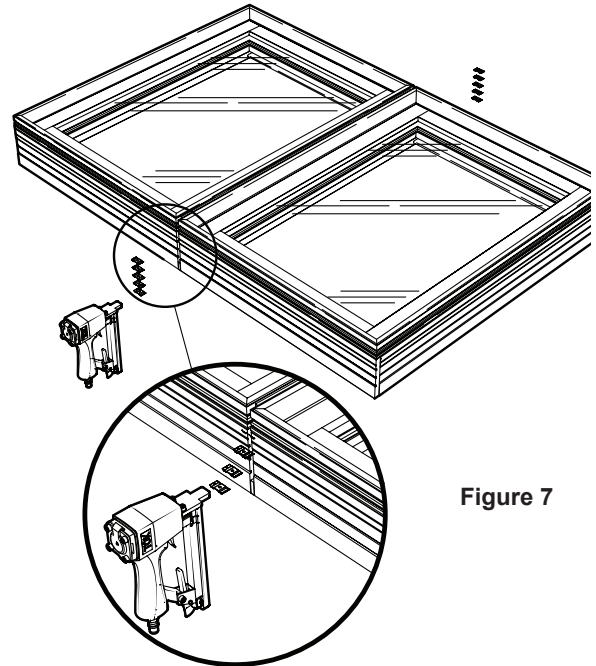

Figure 7
- Join the units together so that the head and sill are flush with one another and are tight together at the mull. (Figure 7)
- Fasten the ends of the mulls with five 1" x 1/2" corrugated nails spaced evenly apart. 1" x 1-1/4" 16 gauge galvanized crown staples may be substituted for the corrugated nails. (Figure 7)